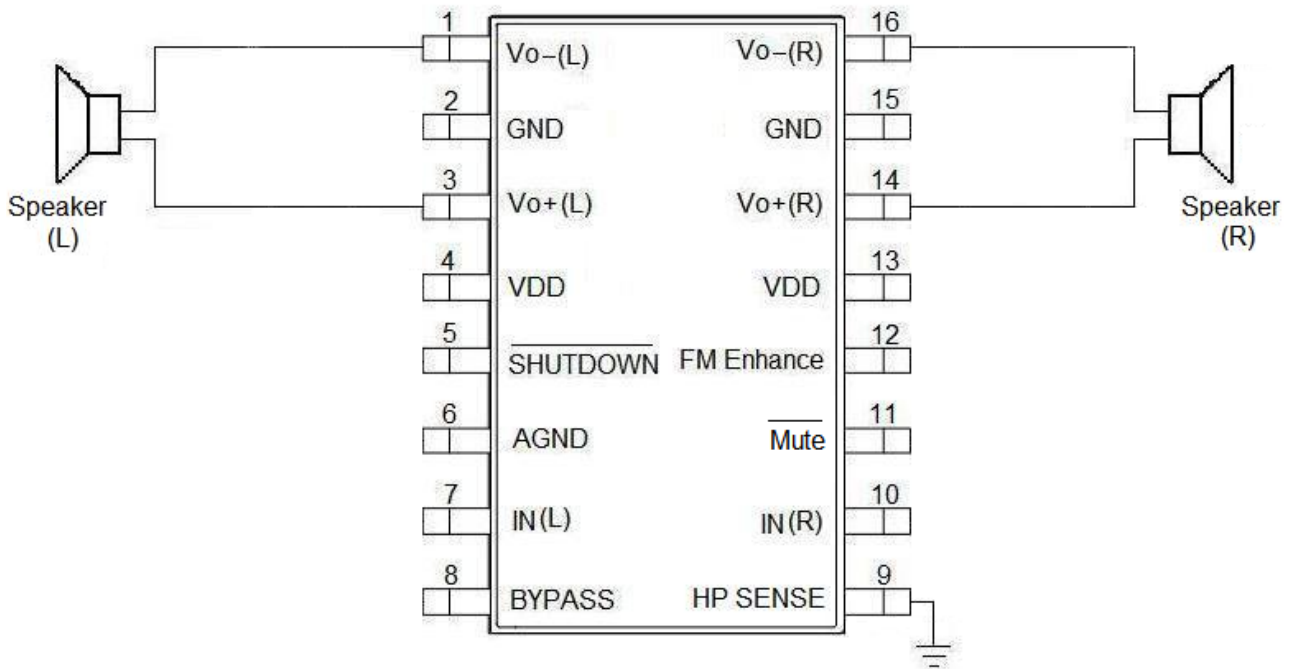

Figure 7. Without Headphone Circuit
As outlined above driving the Speaker (BTL) and Headphone (SE) loads simultaneously using LY8261 is simple and easy. However this configuration will only work if the HP Logic pin is used to control the BTL/SE operation and HP sense pin is connected to GND(Figure 7).